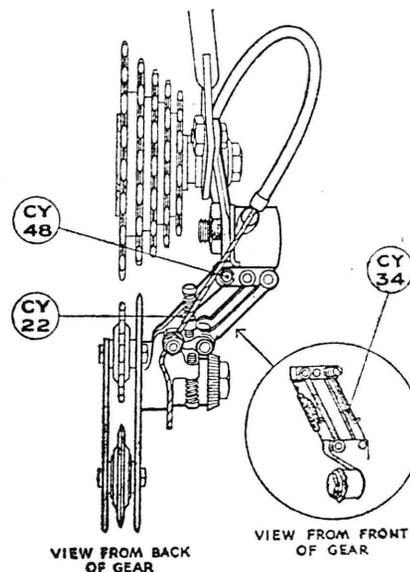

FIG. 2.
6. Slow derailing action on to top gear cog is due to loss of tension. Detach leg of Arm Return Spring (Ref. CY.34) Fig. 2 from Rear Link (Ref. CY.22). Remove circlip from Spring Tension Shaft (Ref. CY.48). Withdraw shaft sufficiently for notch to clear Peg (Ref. CY.76). Turn shaft clockwise so that the next notch will locate on peg. Replace spring and circlip.